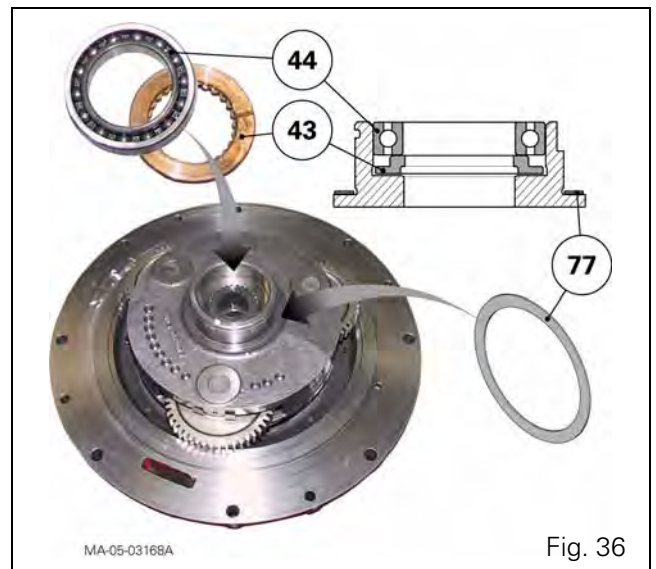

Fig. 36
62. Insert the spacer (43,) which should be smeared with grease, and the ball bearing (44) in the planet carrier (25). Fit the friction washer (77) (Fig. 36).